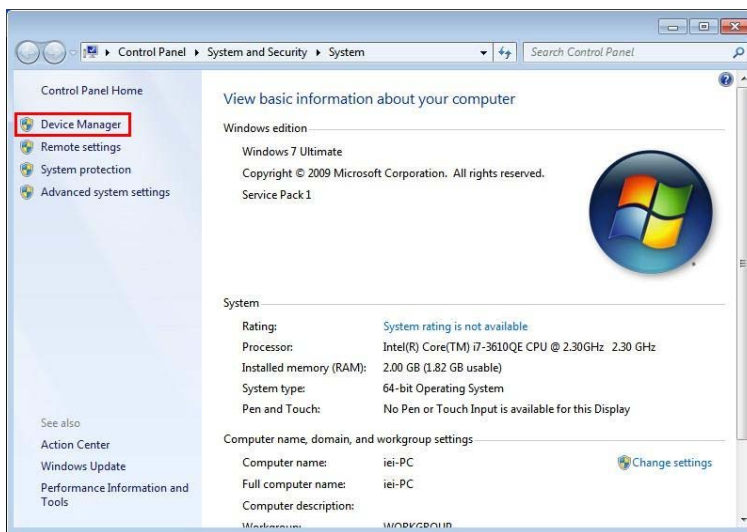

Figure 6-14: System Control Panel
- Step 2:** The system control panel window in Figure 6-14 appears.
- Step 3:** Click the **Device Manager** link (Figure 6-14).